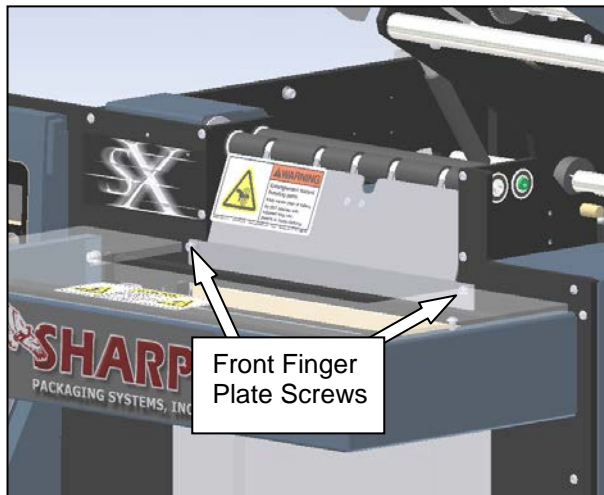

Figure 3-170. Front Finger Plate
- Remove the front finger plate from the machine. **Do not pull the plate away from the machine too quickly, as the photoelectric eye is attached to the plate and wired to the machine.** Gently place the plate under the rollers, ensuring the sensor wire is not excessively pulled (Figure 3-170).